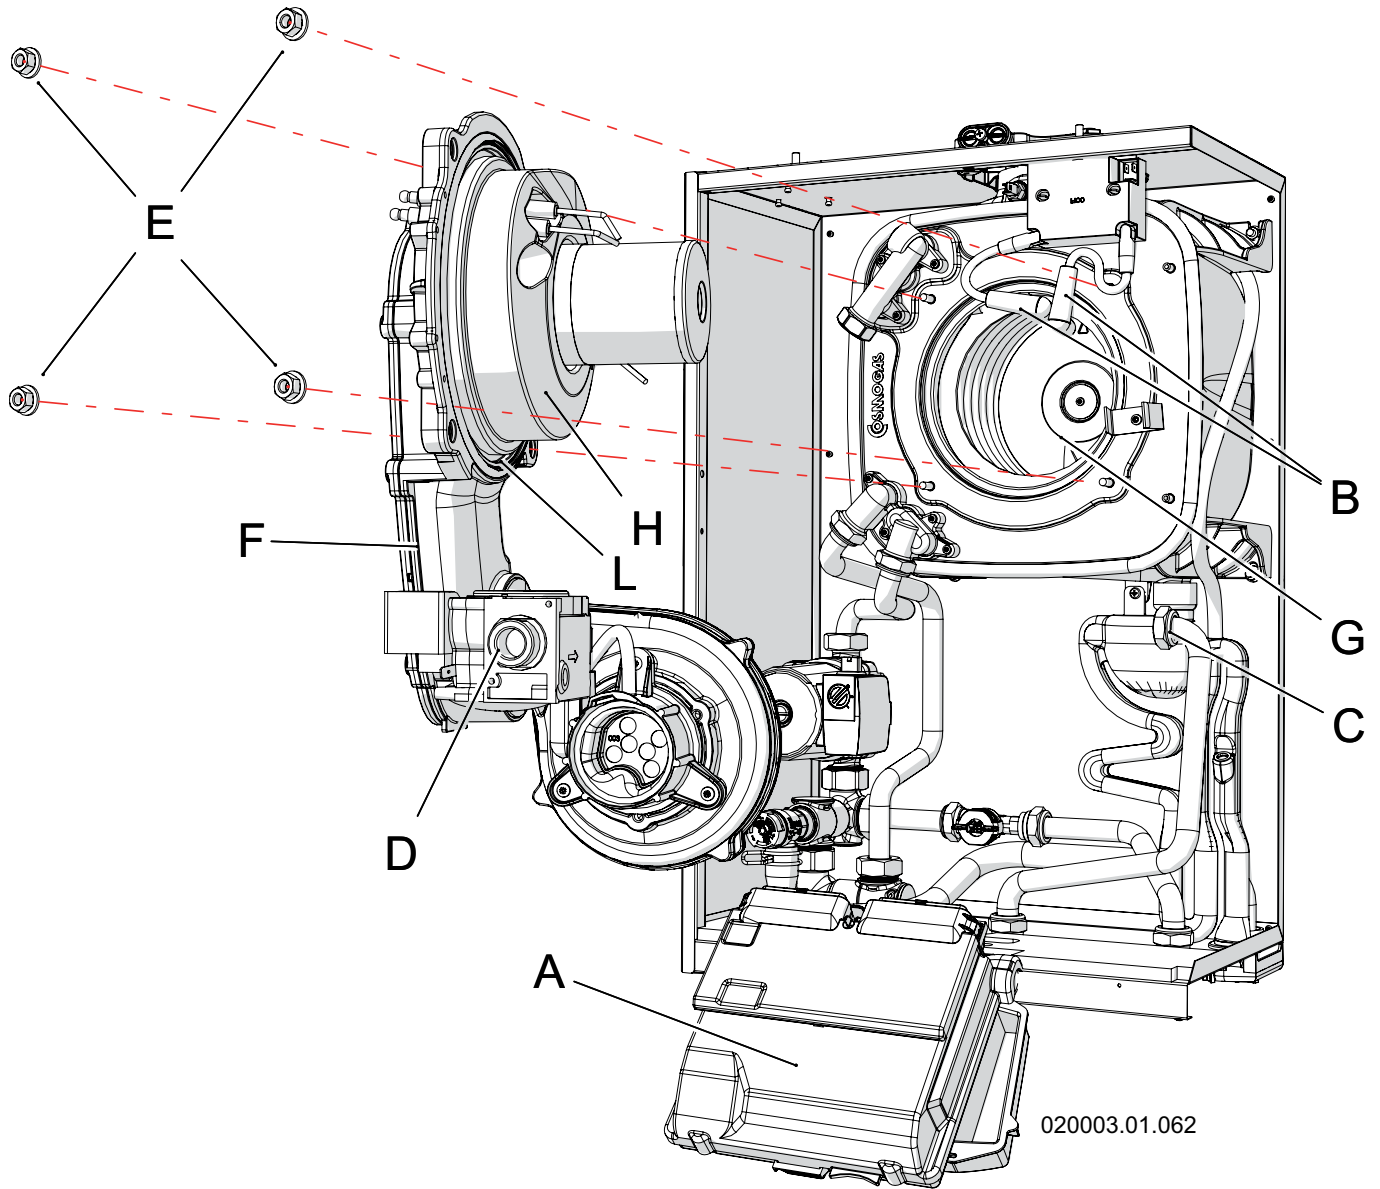

Figure 8-3 - Removing the burner fan unit
Proceed as follows to remove the burner fan unit (refer to figure 8-3 when not differently specified):
Thermal insulations must be checked every year and replaced if they are cracked or damaged. See Figures 8-3 where the thermal insulations (items "G" and "H") are showed assembled in the burner and in the heat exchanger.
**Once verified the condition of thermal insulation (see Figure 8-3), if necessary, replace with spare parts kit, following the instructions supplied with it. With the thermal insulation must be replaced the burner gasket "L" and the two gaskets of the electrodes.**
To correctly clean the burner and the heat exchanger (exhaust flue side), proceed as follows (refer to figure 8-3 when not differently specified):